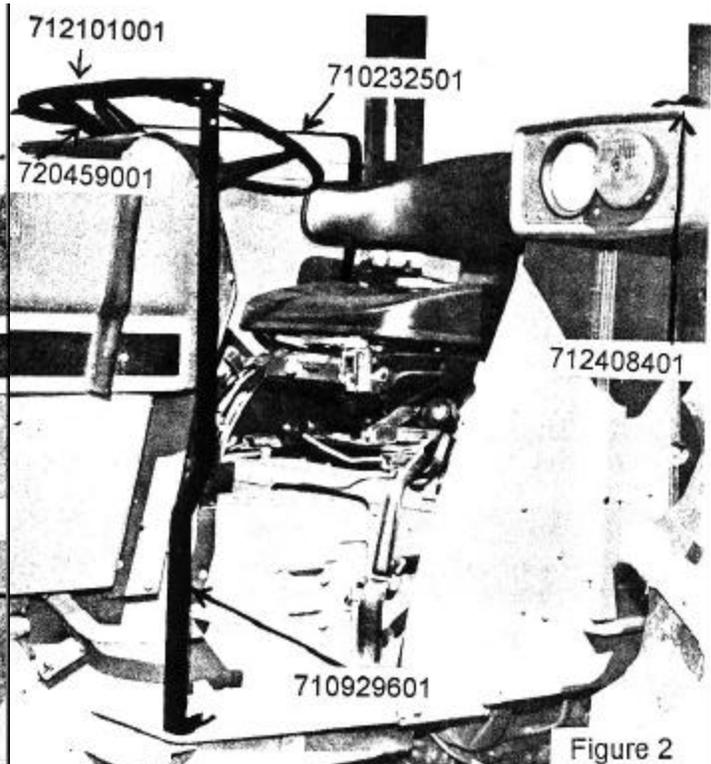

Figure 2
5. Insert # 710929601 Door Post into wide hem on left side of Motor Cover. Bolt top of Door post to Yoke using 1/4x1" hex bolt and nut. Place head to rear, nuts to front of assembly. Attach the bottom of the Door Post to the LH step using two (2) 5/16x1" hex bolts and nuts. See Figure 2